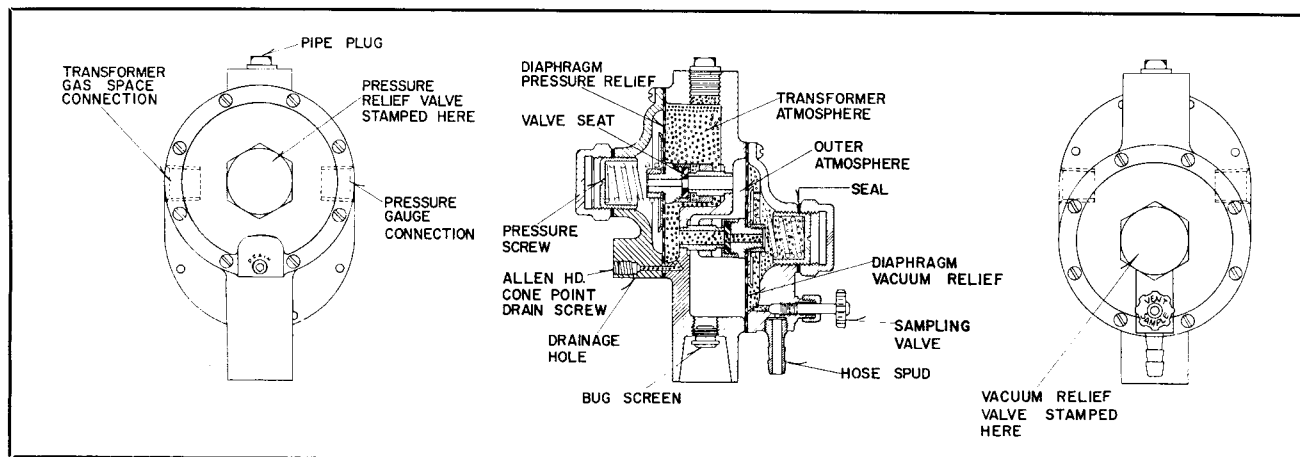

FIG. 3. Pressure-Vacuum Relief Valve
1. A combination pressure-vacuum limiting valve set at $\pm 6\frac{1}{2}$ psi. (The exact relief settings appear on the valve as indicated in Fig. 3.)
Caution: Do not paint over drain vent or bug screen. (See Fig. 3.)